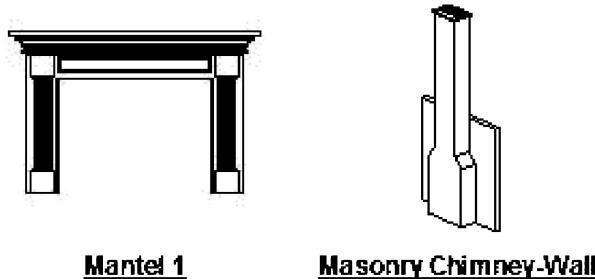

FIGURE 5-5.1 Mantel and Chimney to be used
1. Using techniques previously described to download doors from SDC Publications, download the following items (Figure 5-5.1):